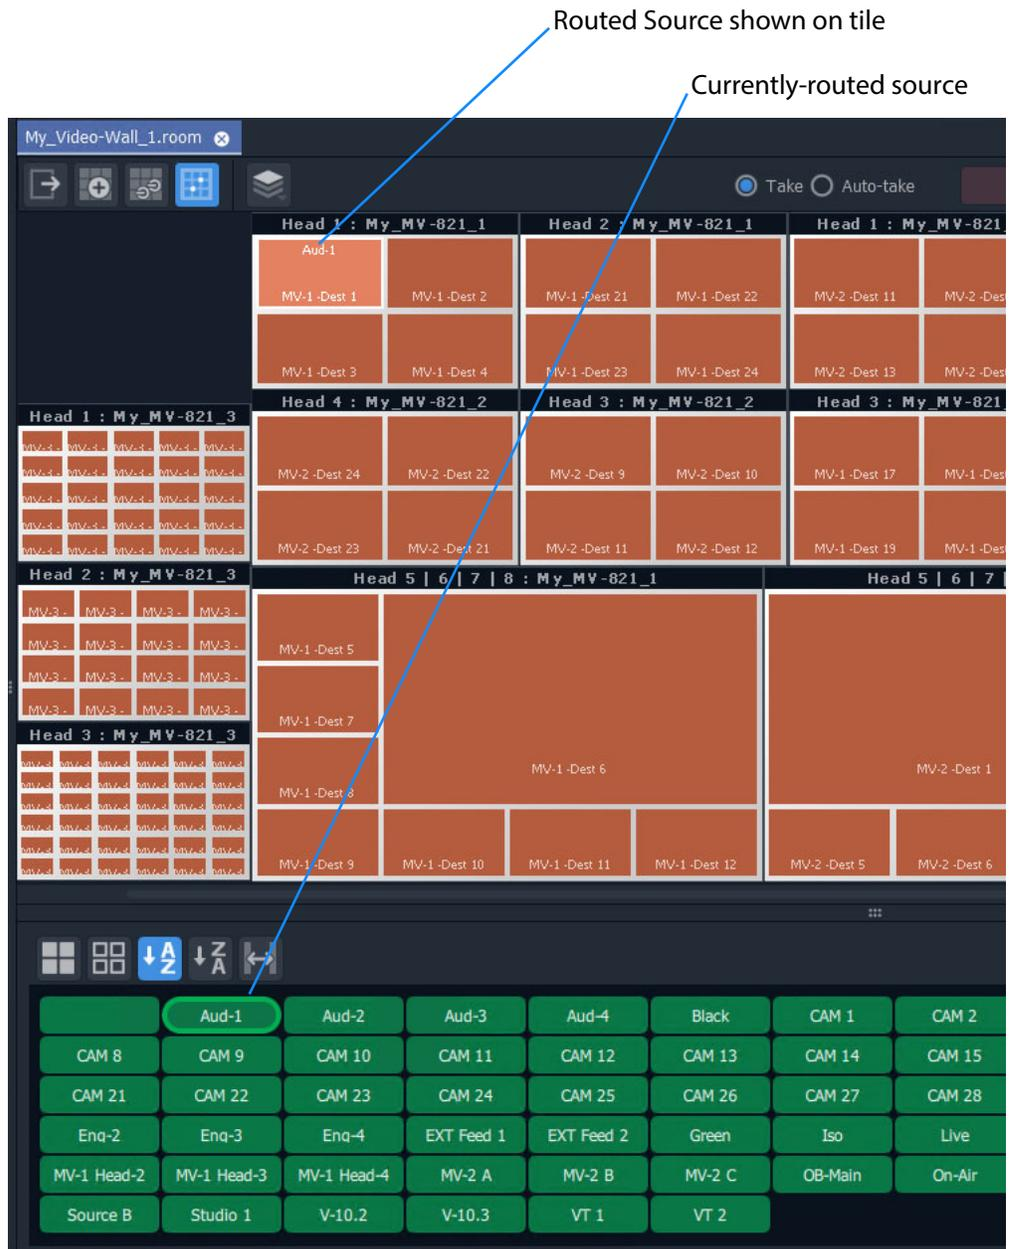

Fig. 8-76: Routed Result
- a) the selected tile position (see Figure 8-76); and also to